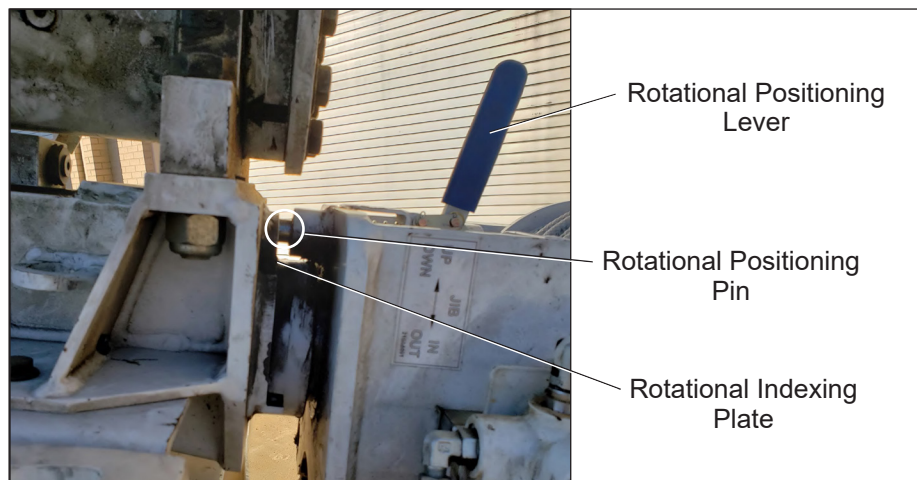

Figure 4 — Locating Jib Rotational Positioning Pin
7. Find the end of the jib rotational positioning pin, located in the center hole of the rotational indexing plate near the rotational positioning lever (refer to Figure 4).